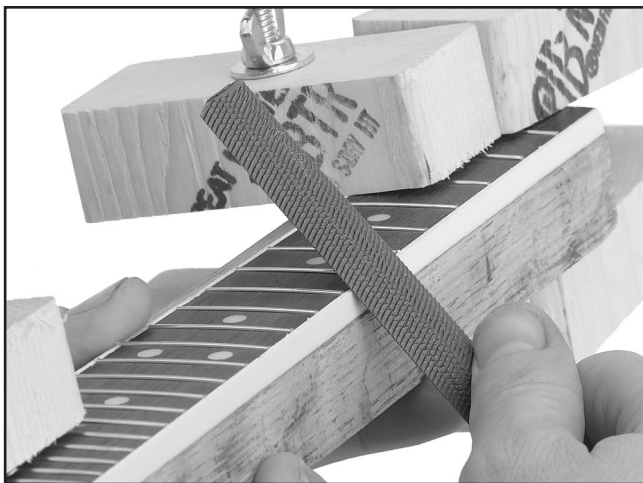

Figure 28. Filing fretboard binding.
1. Use a fine machinist's file to make the binding even with the fretboard surface as shown in **Figure 28**. File up to the edge of the frets.